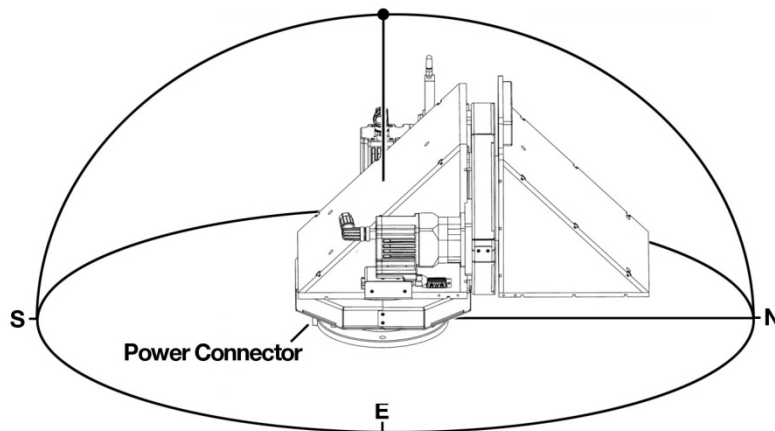

Figure 5: SkyScan in Parked Position
After the SkyScan performs a homing cycle it positions itself in the parked position. This position was chosen to be $(90^\circ, 180^\circ)$ which corresponds to the physical azimuth axis being aligned with north and the zenith axis pointing straight down. This serves to protect the window, mirrors, and any instrumentation you may have attached to the SkyScan by preventing any direct light from entering the system. The parked position is shown in Figure 5.
The SkyScan4 ships with a mounting flange containing six (6) ¼-20 threaded bolt holes spaced equally around a bolt circle as shown in the schematic in Appendix B. It is important to note that the power connector is located at the 180° (south) position as shown in Figure 5 on page 12.